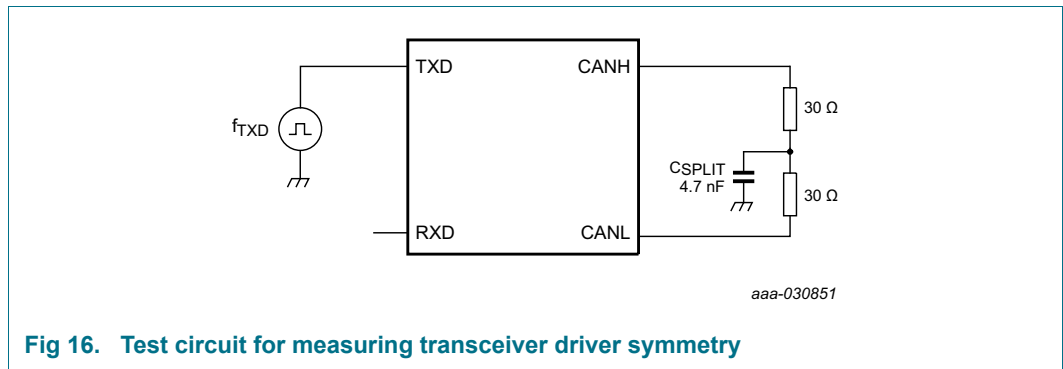

Fig 16. Test circuit for measuring transceiver driver symmetry
- [4] The test circuit used to measure the bus output voltage symmetry (which includes C_{SPLIT}) is shown in Figure 16.
(1) Standby Mode: MC = 100, CWE = 1, CAN Offline mode, V_{BAT} = 12 V, I_{V1} = 0 μA.